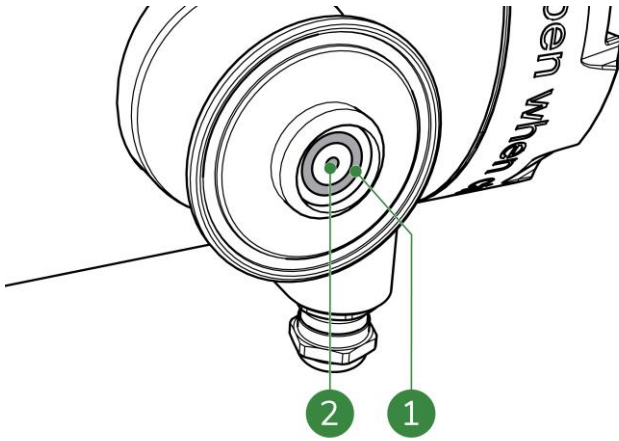

Figure 9-1: Transmitter connection
5. Measure the resistance of the transmitter connection points. The resistance is around 55 to 57 ohms. Measure between the inner and outer connection point (Figure 9-1, pos. 1 and 2).